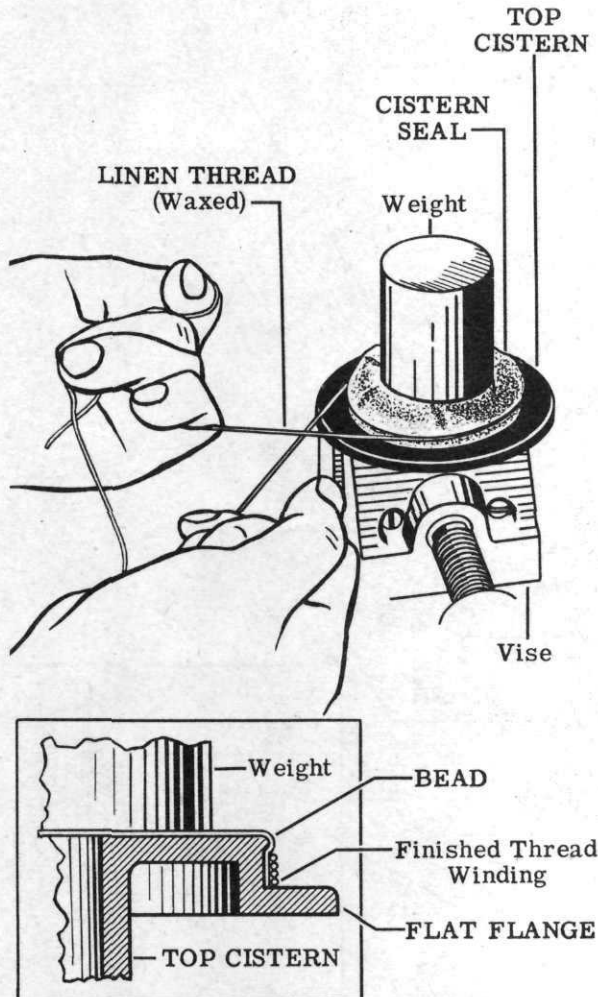
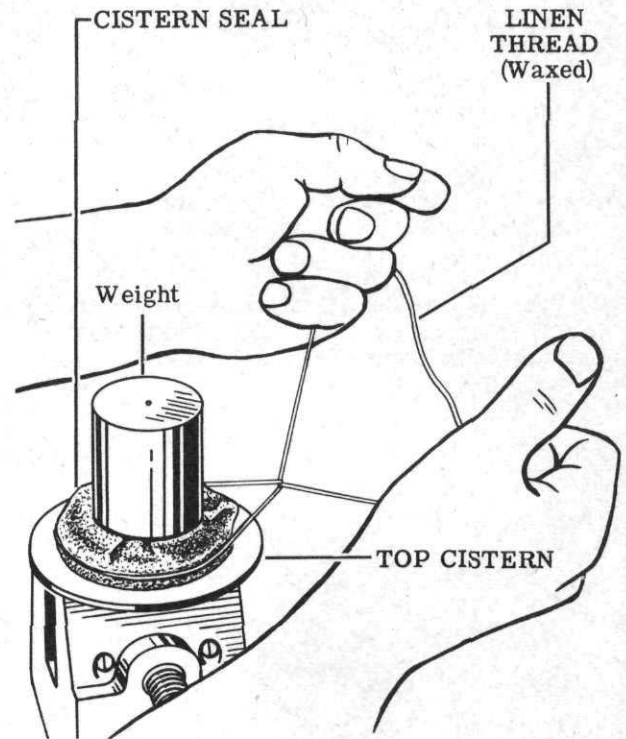

Figure 42
Figure 43
39. Fold the outer edge of the cistern seal carefully over the center of the top cistern and place a suitable weight on the seal to hold it down. See Fig. 42. Insure that the seal forms smoothly around the shoulder of the top cistern over which it has been stretched.
Starting at the center of the thread, and holding the thread taut, wind it tightly around the cistern seal. Start at the bead on the top cistern shoulder. See Fig. 42 and the pullout on the same figure. Cross the first turn of thread and pull it tight. After making the next turn, tie a single knot. See Fig. 43.
scissors, cut off the excess lengths of thread. The thread winding when completed should extend from the bead on the top cistern shoulder down to the flat flange. See the pullout on Fig. 42.
42. With the forming tool (Tool No. 12) push down the knots to form a smooth surface all around the seal. Then remove the weight and remove the top cistern from the vise. See Fig. 43.